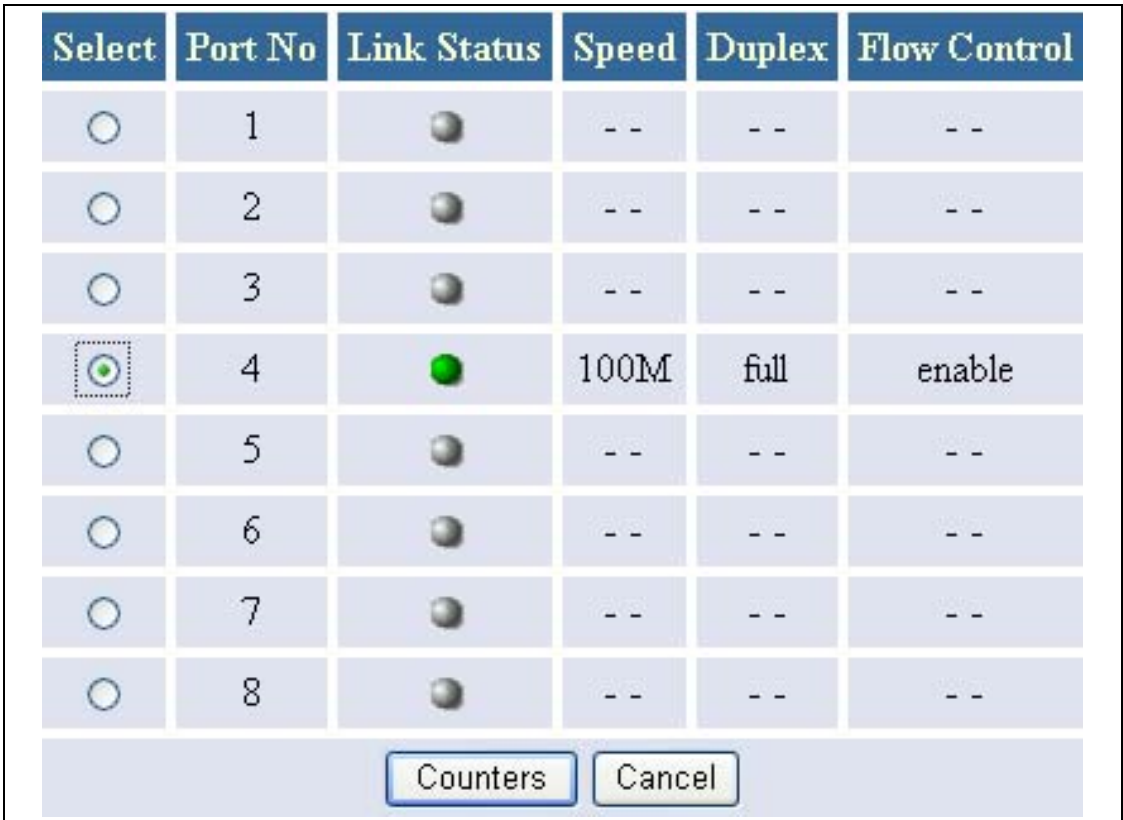

Fig 5-6
2. Click the “Counters” button (Fig 5-6), and the information you are looking for will be seen on Fig 5-7.